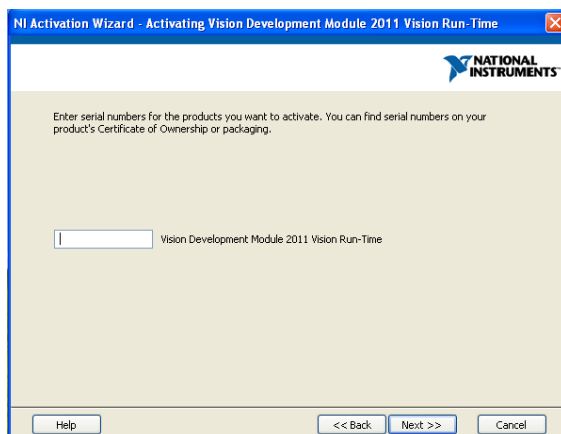

Figure 7. Vision activation code
- 9) The NI Activation Wizard will prompt to enter the serial number for the “Vision Development Module 2011 Vision Run-Time” (**Figure 7**). Input the Serial Number located on the NI Vision Development Module Run-Time License, which is included with the equipment documentation.